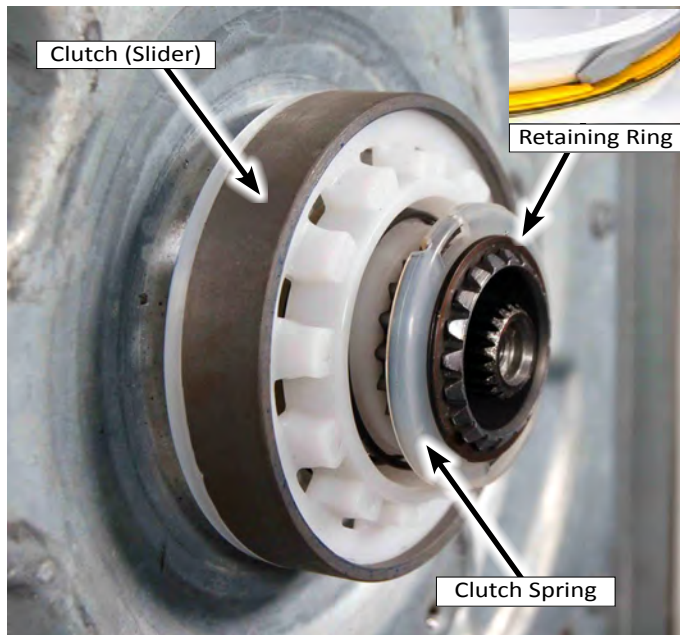

Figure 1
1. **Remove Slider** - Figure 1 shows the three parts of the clutch assembly; the spiral retaining ring, the clutch spring, and the clutch (slider). The first step in removing the clutch assembly is to remove the spiral retaining ring. Locate the overlap of the spiral ring and use a small flat blade screwdriver to pry ring off of shaft.